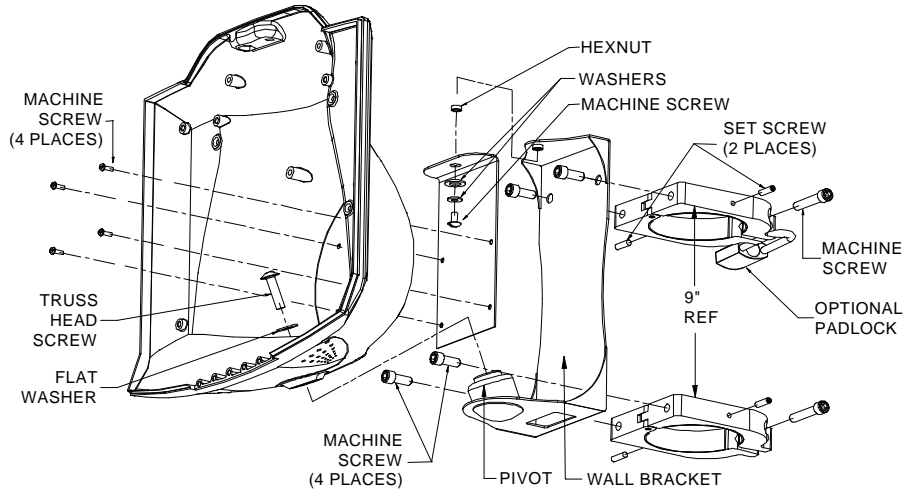

FIGURE 7 - LALLY COLUMN WITH SWIVEL BRACKET MOUNT
1. Open one of the column brackets and clamp it to the column at the level where the terminal will be mounted. Secure the bracket with the supplied machine screw (3/8 - 16 x 1 - 1/2 L) as shown in Figure 7.
2. Open the second column bracket and clamp it to the column 9 inches from the first bracket (measuring from the inside of one bracket to the inside of the other bracket). Secure the bracket with the supplied machine screw (3/8 - 16 x 1 - 1/2 L) as shown in Figure 7.
3. Attach the wall bracket to the column brackets using the 4 supplied machine screws (3/8 - 16 x 1 L) as shown in Figure 7.
4. Install the 2 set screws (1/4 - 20 x 1/2 L) on either side of each column bracket to secure the brackets. See Figure 7.
5. Attach the terminal bracket to the wall bracket by installing the machine screw (1/4 - 20 x 1/2 L) and 2 washers (.75 T x 1/2 ID x 7/8 OD and .83 T x 7/16 ID x 7/8 OD) up through the hole in the wall bracket and then through the tab in the terminal bracket as shown in Figure 7. The washer with the larger inside diameter must be closest to the bracket. Make sure that the washers are centered and then loosely tighten the machine screw. Install the hexnut to secure the bracket, and then fully tighten the machine screw and hexnut.
8. Attach the terminal to the terminal bracket using the 4 supplied machine screws (8 - 32 x 1/2 L) as shown in Figure 7.
9. Secure the bottom of the terminal to the bracket by installing the truss head screw (3/8 - 16 x 3/4 L) and flat washer (.083 T x 7/16 ID x 7/8 OD) through the terminal and into the pivot on the wall bracket as shown in Figure 7.